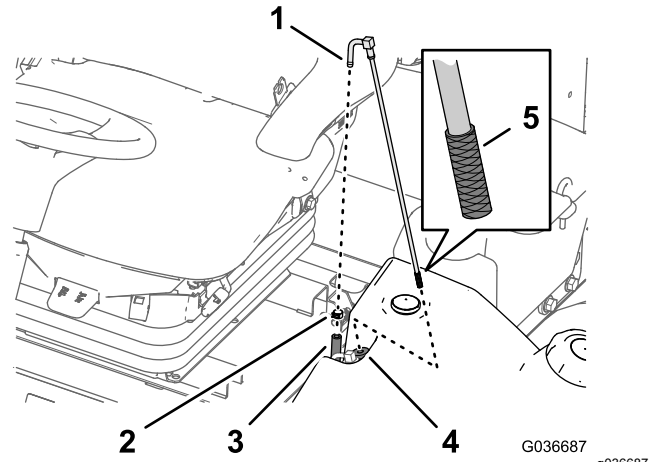

Figure 53
1. Remove the hose clamp that secures the fuel supply hose to the fitting of the fuel-pickup tube (Figure 53).
2. Separate the hose from the fitting (Figure 53).
3. Lift the fuel-pickup tube from the fuel tank (Figure 53).
4. Clean any debris from the screen at the end of the fuel-pickup tube (Figure 53).
5. Insert the fuel-pickup tube through the rubber bushing and into the tank (Figure 53).